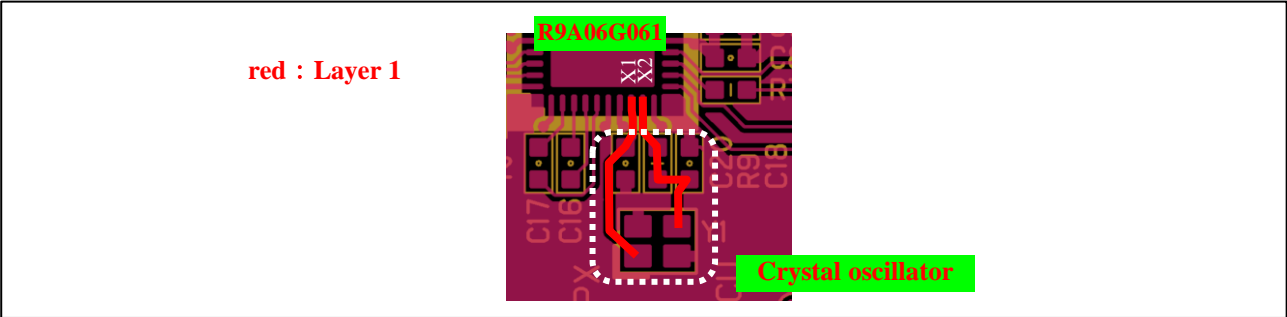

Figure 2-4 Example of placement of crystal oscillator and its peripheral components
- Place the crystal oscillator and its peripheral components connected to the R9A06G061 as close to the terminals as possible, and keep the wiring short. Also, place a GND under and around the crystal oscillator, and connect it to the GND solid pattern so that it does not become an isolated island pattern. Figure 2-4 shows an example of the placement of a crystal oscillator and its peripheral components.